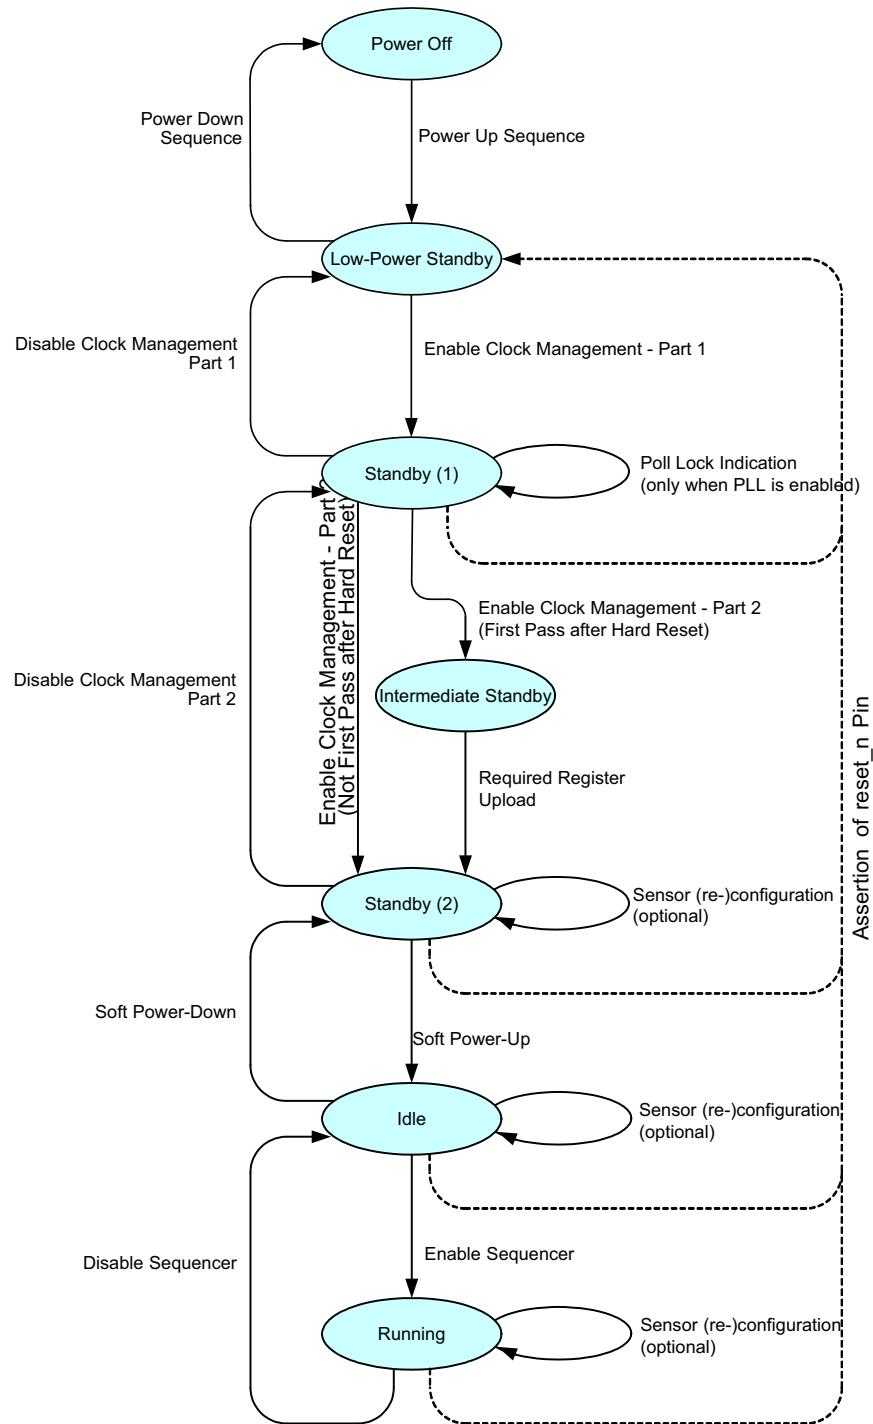

Figure 14. Sensor Operation Flowchart
Figure 14 shows the sensor operation flowchart. The sensor has six different ‘states’. Every state is indicated with the oval circle. These states are Power off, Low power standby, Standby (1), Standby (2), Idle, Running.
is not used, this step can be bypassed as shown in Figure 14 on page 15.